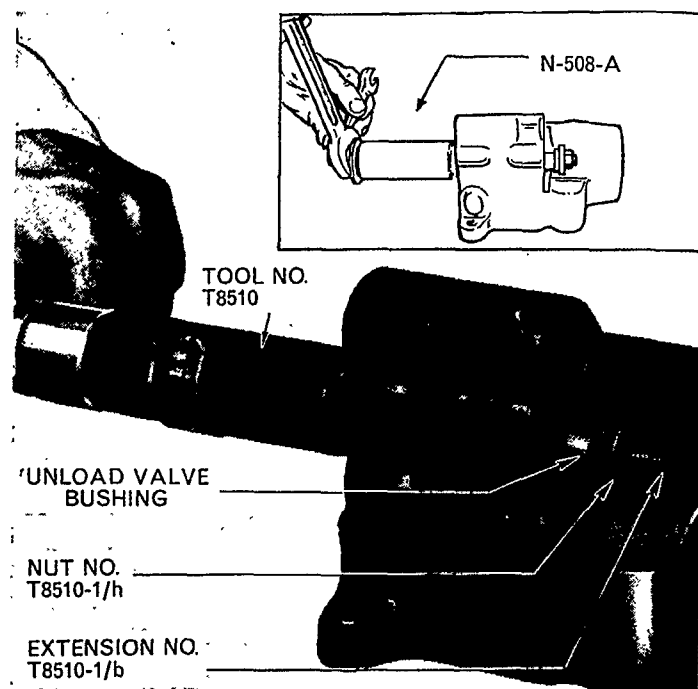

Figure 23
10. Pass the Extension No. T.8510-1/b through the unload valve bushings, attach the Nut No. T.8510-1/h, locating it squarely against the rear end of the rear bushing, and withdraw both bushings from the cylinder in one operation, Figure 23.
Alternatively use Lift Cylinder Bushing Remover and Replacer No. N-508-A to remove the unload valve bushings, inset—Figure 23.